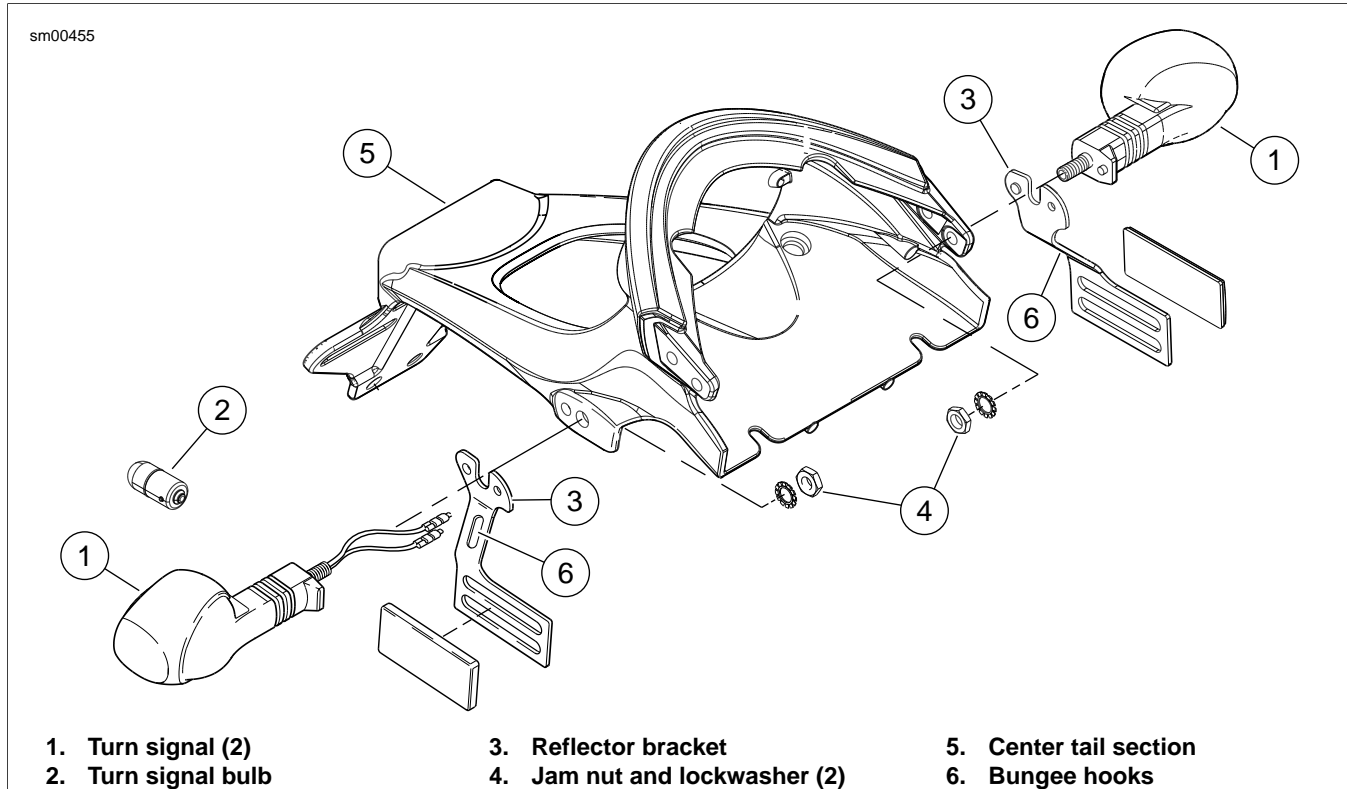

Figure 6-55. Rear Turn Signals: Lightning
3. See Figure 6-55. Remove jam nut and lockwasher (4).
3. See Figure 6-55. Attach turn signal using lockwasher and jam nut (4). Tighten to 25-28 **in-lbs** (2.8-3.2 Nm).